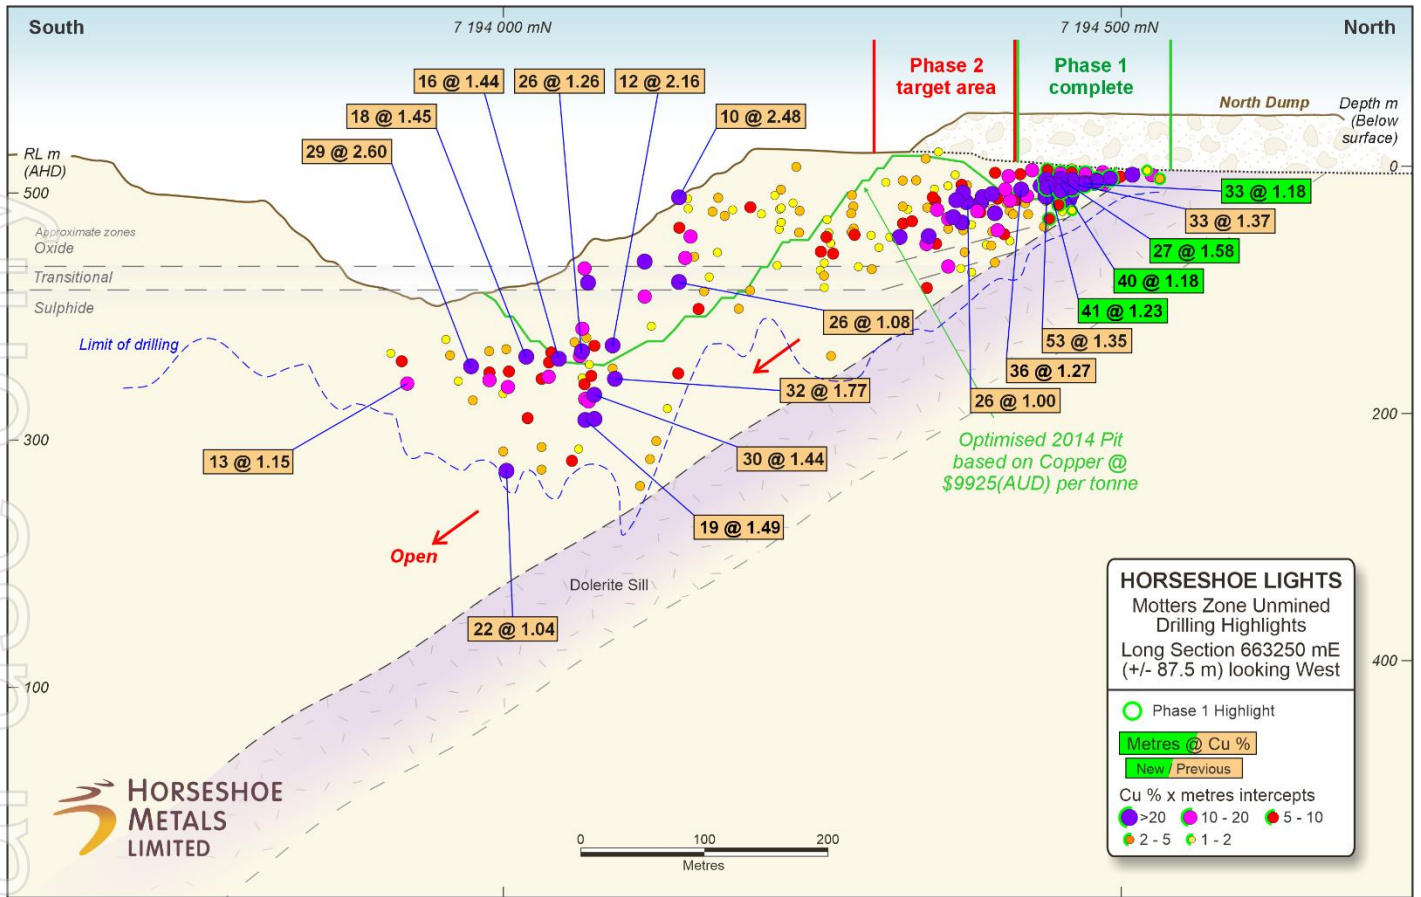
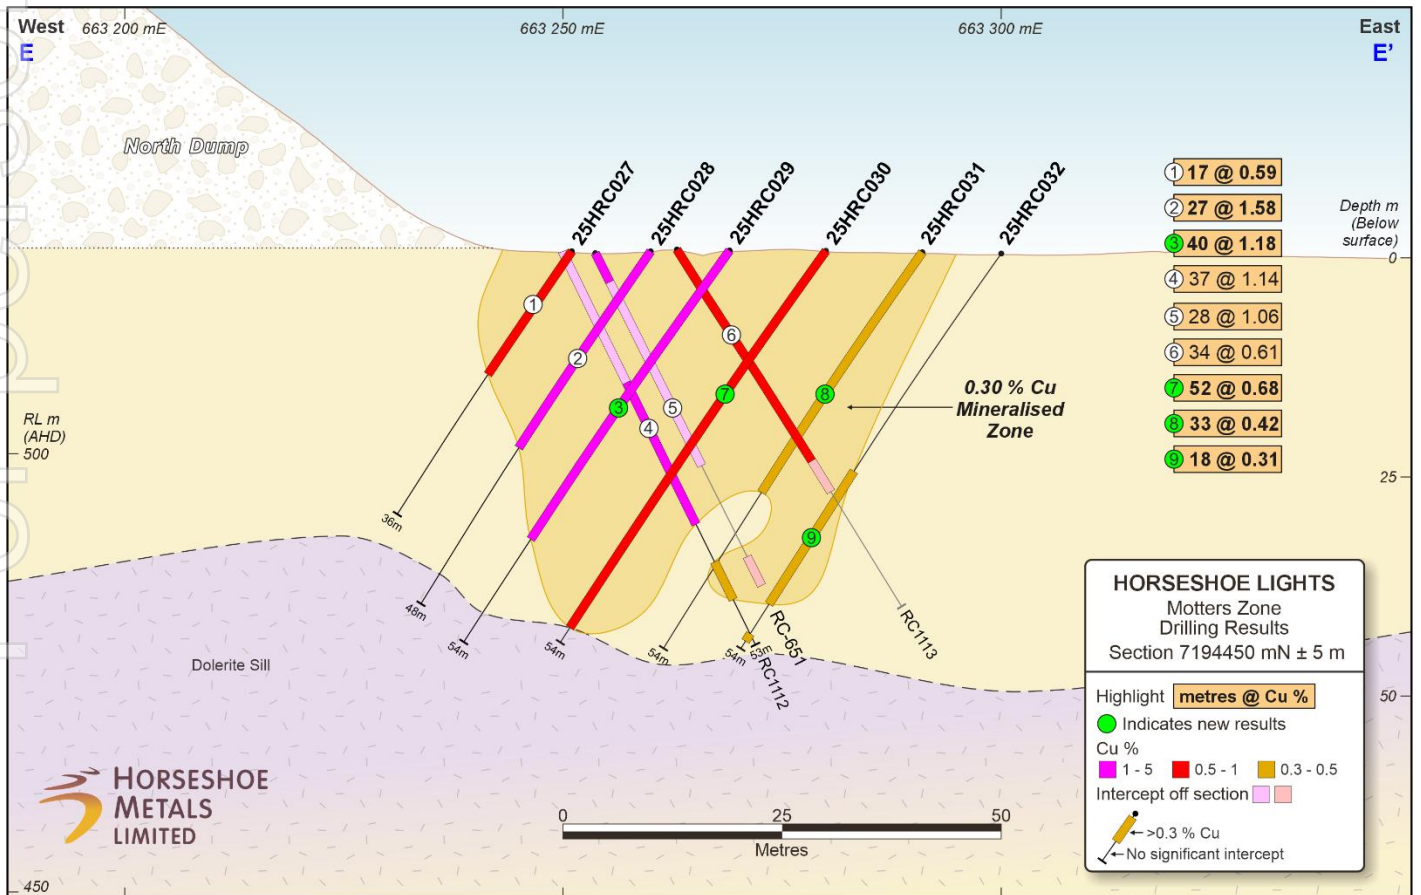

Figure 2: Motters Long Section looking west showing Phase 1 and Phase 2 areas of near surface oxide
Figure 3: Motters Zone Cross Section E-E' showing close spaced RC drill results in oxide zone
- Additional RC drilling will focus on the immediate southern extension to the Northeast corner of the HSL open pit where several significant drill intercepts have been recorded (see Figure 2)
Oxide to transitional mineralisation at Motters Zone is interpreted to extend from surface to between 40 and 60 metres below surface (Figures 2 to 4). Motters Zone averages about 20 metres in width and dips steeply to the west at about 80 degrees (Figures 3 and 4).